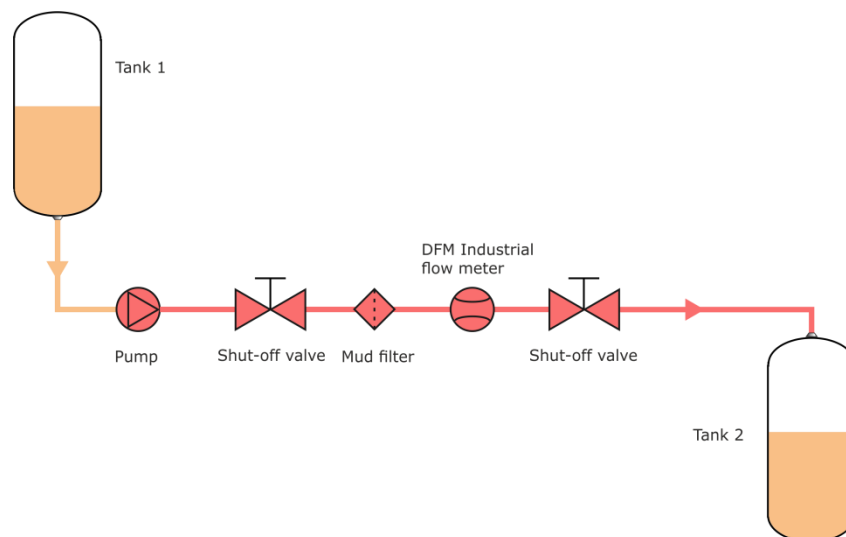

Figure 38 — Example of a scheme for measurement accuracy check
- 1) Measure precise volume of fluid, which is contained in tank 1 on the beginning of procedure (V_{initial}) (see figure 38).